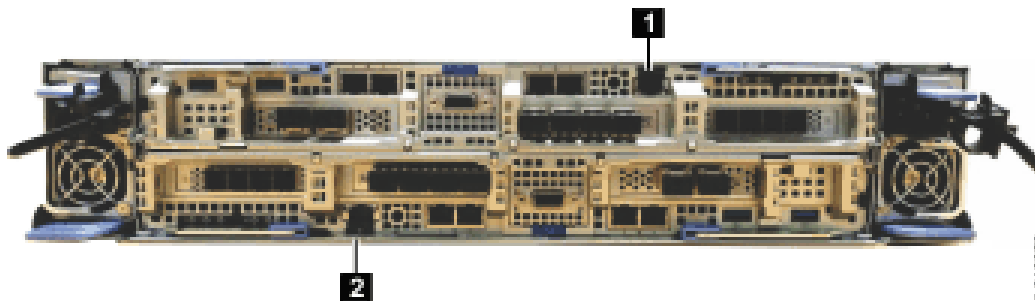

Figure 62. Technician port
4. Disconnect the personal computer from all networks. Connect an Ethernet cable between the port of the personal computer that is configured in step “2” on page 100 and the technician port in the left canister (1) that is shown in Figure 62 on page 100.